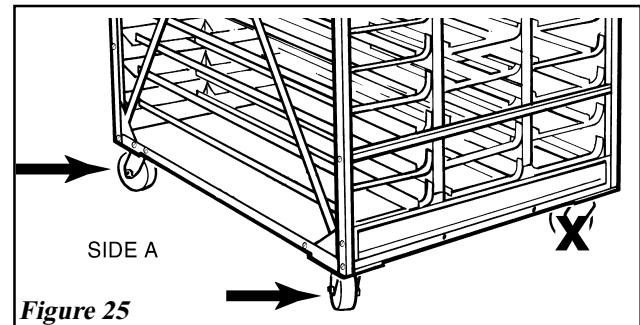

Figure 25
**Step 18:** On one (1) side only, tighten down the bolts that attach that particular side frame to its casters as in Figure 25.